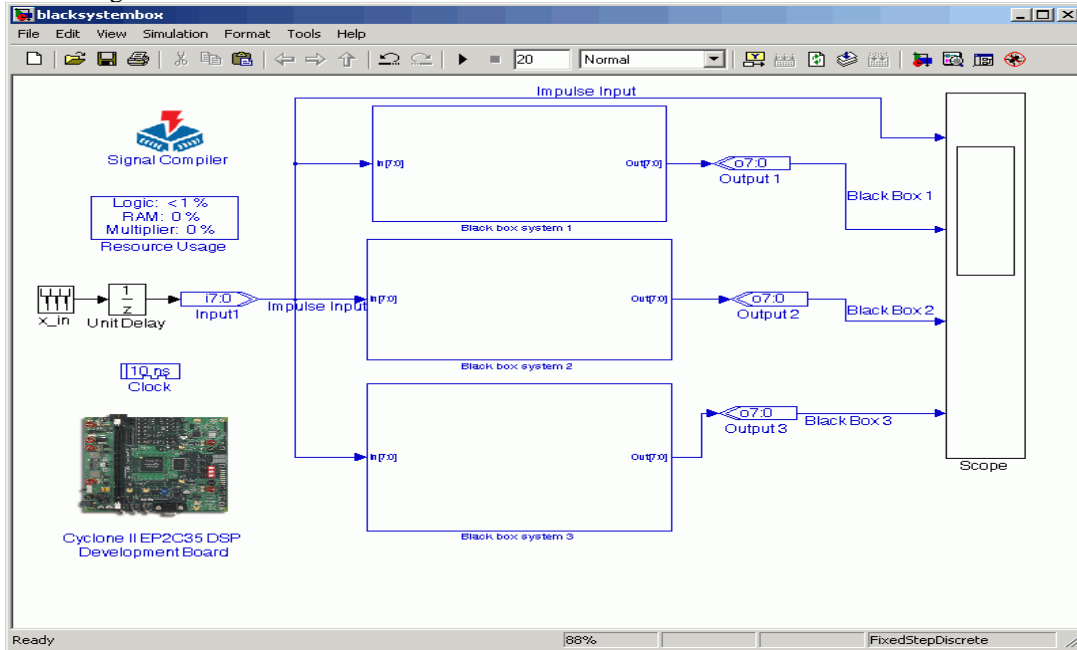

Fig. 3: Black box systems with known impulse responses.
3. The following figure shows three black box systems. The SFG of the each system is unknown, but their responses to an impulse sequence of +10 and -20 have been measured and are shown in Figure 4. Use the given impulse responses to determine the difference equations of the systems, and then fill in the missing SFGs in Figure 3.
Follow the directions below to implement the circuit shown in Fig. 3.